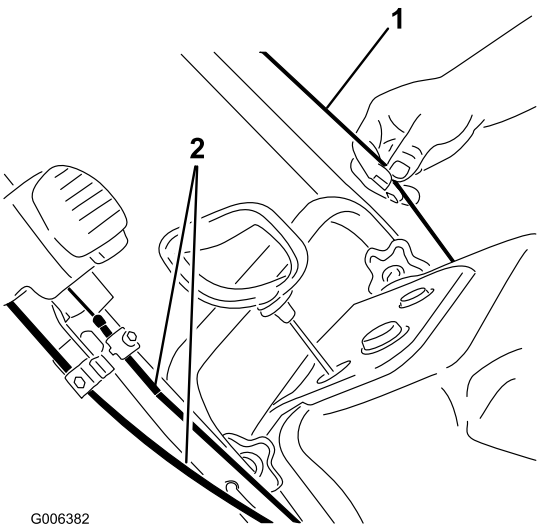

Figure 5
**Important:** Ensure that you do not pinch or kink the control cable or the Quick Shoot™ cables (Figure 5).